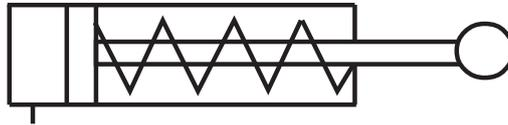

Fig. 1
- 1 (a) (i) Name the type of pneumatic cylinder shown in **Fig. 1**.
- (ii) Name the valve used to control the movement of the cylinder in **Fig.1**.
- (iv) Calculate the force that the cylinder in **Fig. 1** can exert if the cylinder area is 250 mm^2 and the air pressure is 0.5 N/mm^2 .